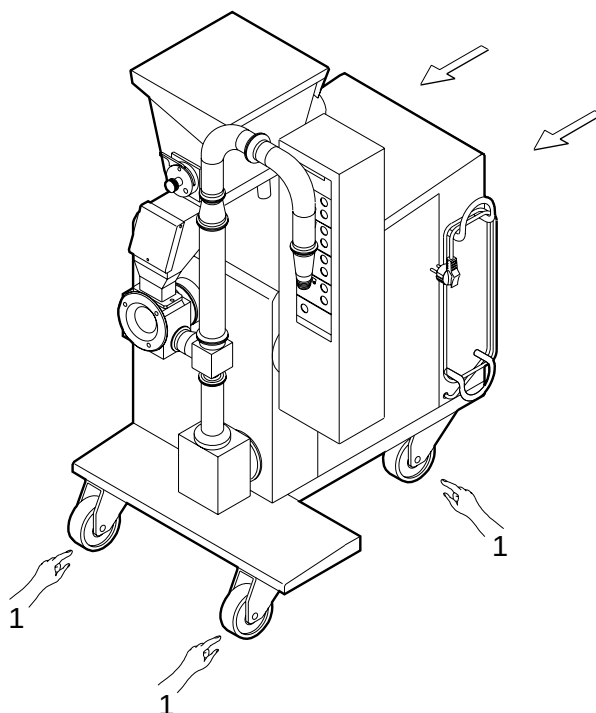

Fig.4.2
As the machine is mounted on wheels (1), it can be pushed directly by the operator, as shown in *Fig.4.2*.